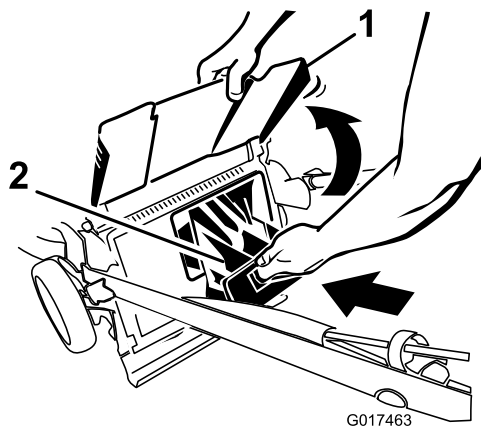

Figure 28
4. Install the rear-discharge plug (Figure 28).